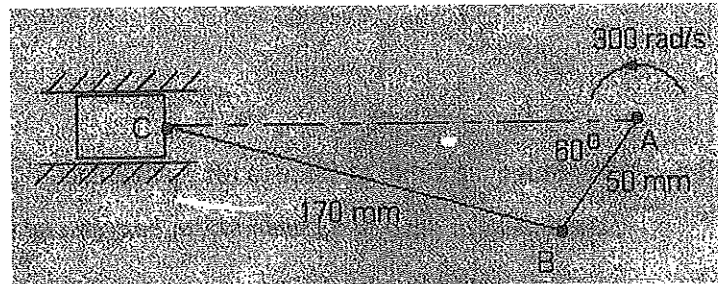

Figure 2(c) / Rajah 2(c)
- (c) A piston, connecting rod and crank mechanism is shown in Figure 2(c). The crank rotates at a constant speed of 300 rad/s counter-clockwise direction. The figure is not drawn according to scale.